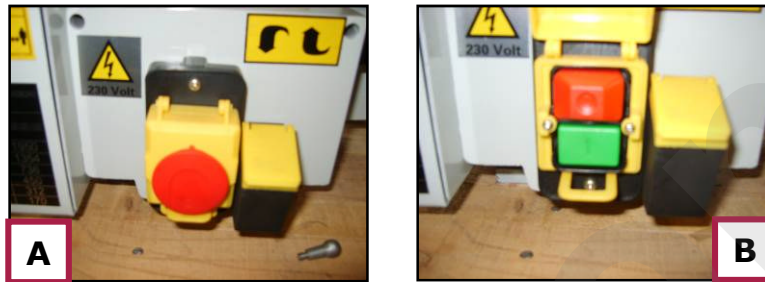

Figure 7 – Electrical and control panel.
The electrical panel has the following controls (see **Figure 7**):
- electric motor start button (green, **Figure 7/B**);
- electric motor stop button (red, **Figure 7/B**);
- emergency button (with red cap, **Figure 7/A**);
- button for reversing the direction of rotation of the electric motor (red, **Figure 7/B**).